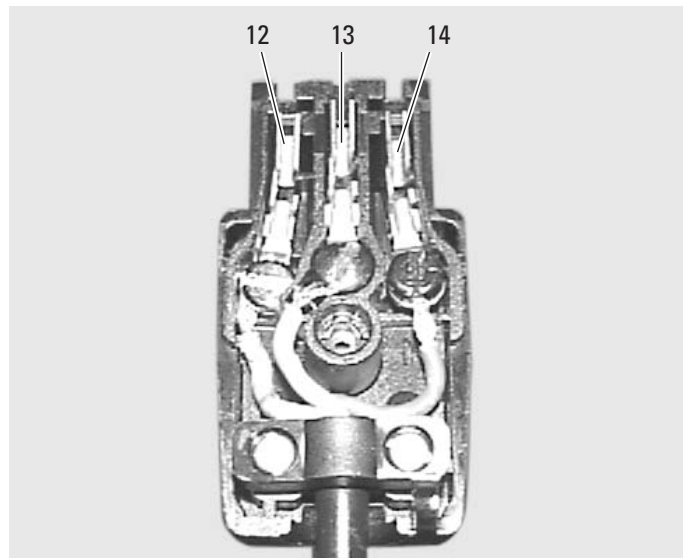

Fig. 3
⇒ Connect the power cable (9) to the power plug (Fig. 3).
- Neutral conductor (12)
- Protective earth (13)
- Phase (14)